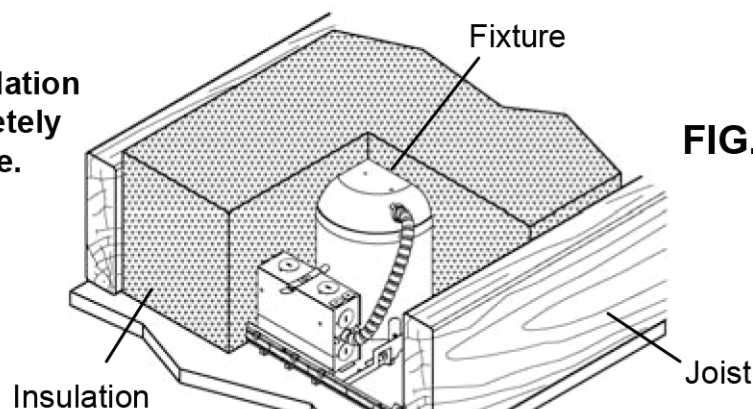

FIG. 1
NOTE: First turn off electricity at the circuit breaker or the fuse box. Turning the power off by using a wall switch is not sufficient to prevent electrical shock. (FIG 1)
6. Thread the Direct Supply® Purescape™ Far-UVC Pendant Style Unit onto the pole (if applicable). *Some styles of canopy pole may not include threading and may attach using only the cotter pin.* (Figure 1)
- a. **⚠ CAUTION: DO NOT LET GO OF THE PENDANT UNIT UNTIL THE LOCKING COTTER PIN IS SECURED.** (Figure 1)